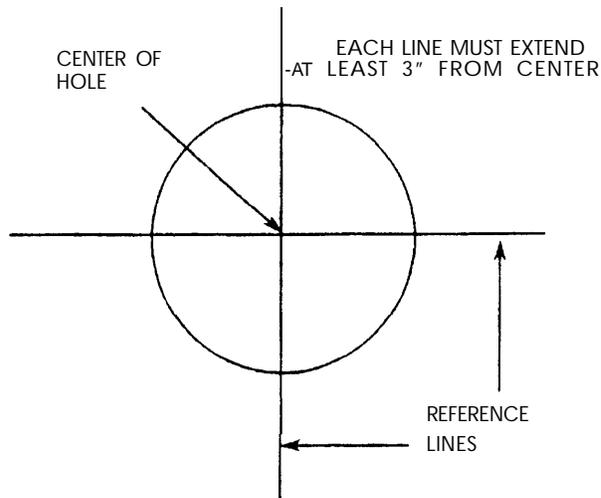

Figure 14. Reference Lines Used When Aligning Power-Assisted Drive Tool for Stud Location.
7.04 After the wall angles, office frames, and channel brace supports are installed and the frames are plumb, align the channel braces by locating them parallel to the end reference line of each equipment aisle and at right angles to the frame top angles (Figure 14). Use the same reference line that is used when laying out the office floor as described in Section 237-050-201.